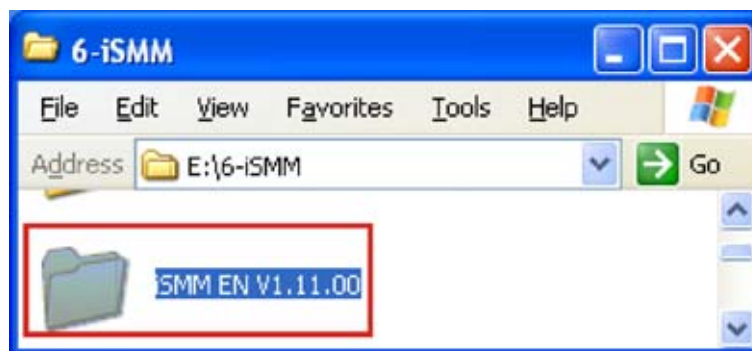

Figure 7-29: iSMM Directory
Step 66: The iSMM directory appears. (**Figure 7-29**)
Step 67: Double click the **iSMM EN V1.11.00** directory icon. (**Figure 7-29**)